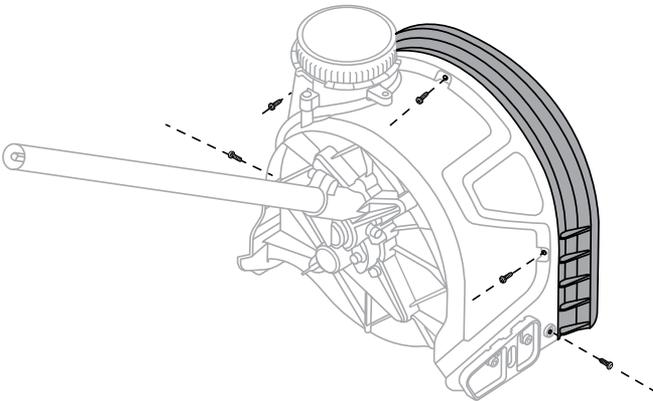

Fig. 7.3A
3. Remove the five screws that are located on the attachment guard. (Fig. 7.3A)